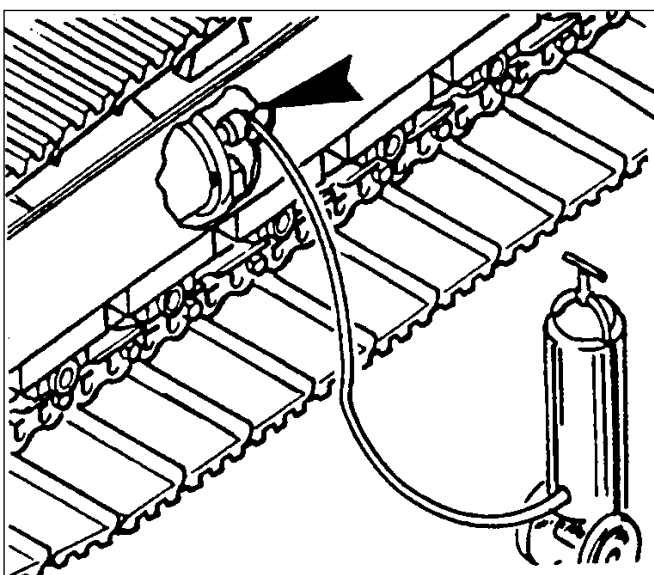

Fig. 3-6 Increase track tension
1. Remove access cover on track side frame and attach a grease gun to the grease fitting located inside the hole on the side of the track (fig. 3-6). A special adaptor is required for this. Adaptor for greasing V014664.